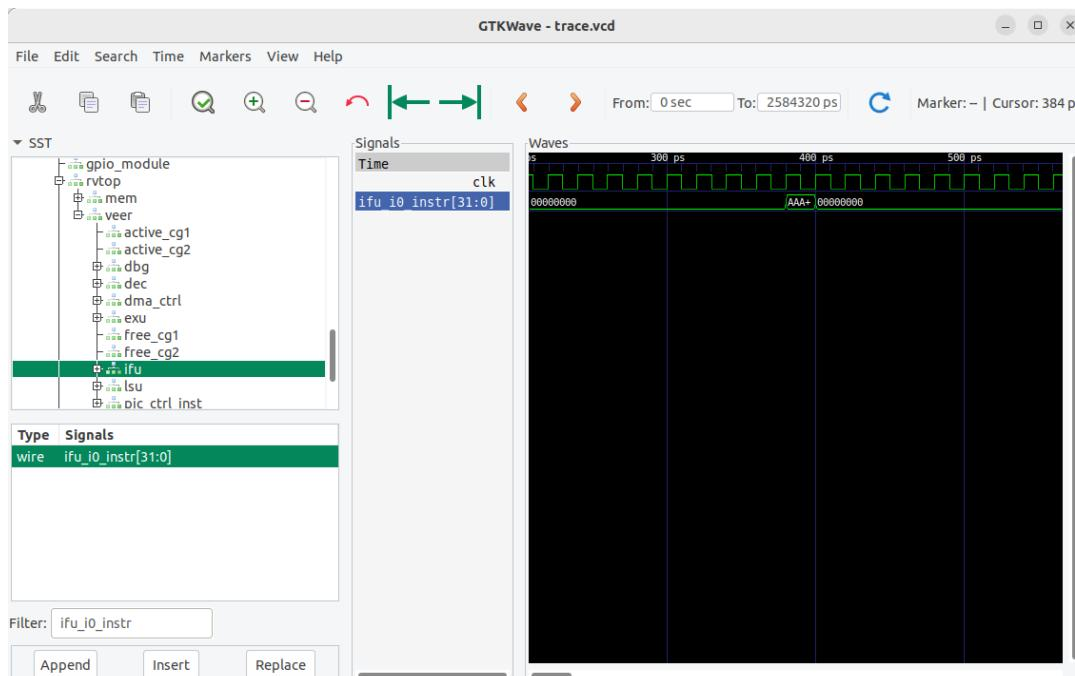

Figure 70. Add signal `ifu_i0_instr[31:0]` to the timing waveform
- Now add the signals that show the instruction that executes in the RISC-V core. In the same module (**ifu**) look for signal `ifu_i0_instr[31:0]` (Figure 70), and drag it into the black Waves pane. The prefix `ifu` indicates the instruction fetch unit and `instr[31:0]` indicates the 32-bit instruction.